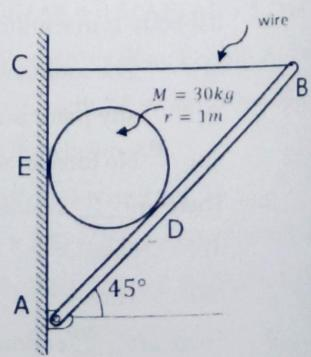

Fig 2.37
- 5) A 5m rigid homogeneous rod hinged to a wall at its end A. It is supported by an inextensible wire at B as shown in the fig 2.37. Weight of the rod is 20kg. The rod is supporting a smooth cylinder of diameter 2m and mass 30kg. Determine reaction at 'A' & Tension in wire 'BC'. (Ans.: $T_{BC} = 382.3N$; $R_{AX} = 88N(\rightarrow)$, $R_{AY} = 495.5N(\uparrow)$, $R_A = 503.3N$, 79.83°)